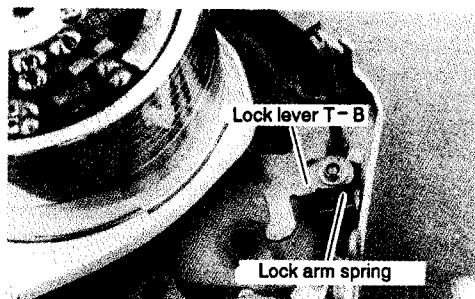

Fig. 3-11-4
- ① Make sure that the lock arm spring and lock lever T-B are mounted as shown in Fig. 3-11-4.
- ② Attach the slant T to the main plate shaft.
- ③ Secure the slant T with screws ④ and ⑤.
- ④ Secure the takeup guide arm stopper with the screw ⑥.
- ⑤ Secure the A/C lead holder with the screw ⑦.
- ⑥ Attach the cleaning arm to the main plate shaft.
- ⑦ Attach the cleaning arm spring.
- ⑧ Attach the takeup impedance roller assembly to the main plate shaft.